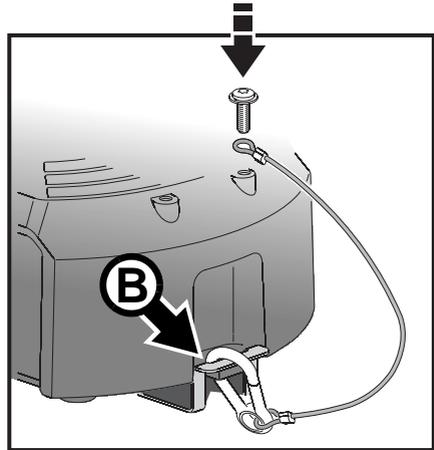

Figure 5: Installing the safety cable
4. See Figure 5. Pass the carabiner clip on the supplied safety cable through **both** the safety cable attachment point in the fixture's baseplate **and** the clip in the mounting bracket at the opposite end to the latch (see **B** in Figures 4 and 5) so that it links the fixture baseplate to the clip in the mounting bracket and will hold the fixture if it falls out of the bracket.
5. Use the supplied 4 x 16 self-tapping Torx screw and washer to fasten the other end of the safety cable to the fixture base for convenience as shown in Figure 5.